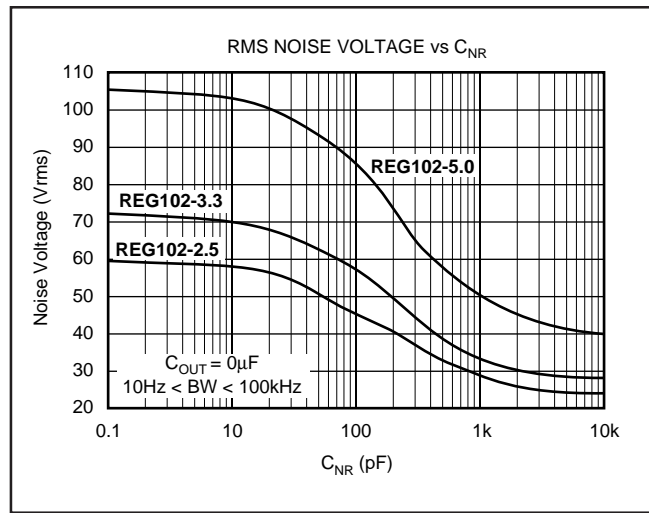
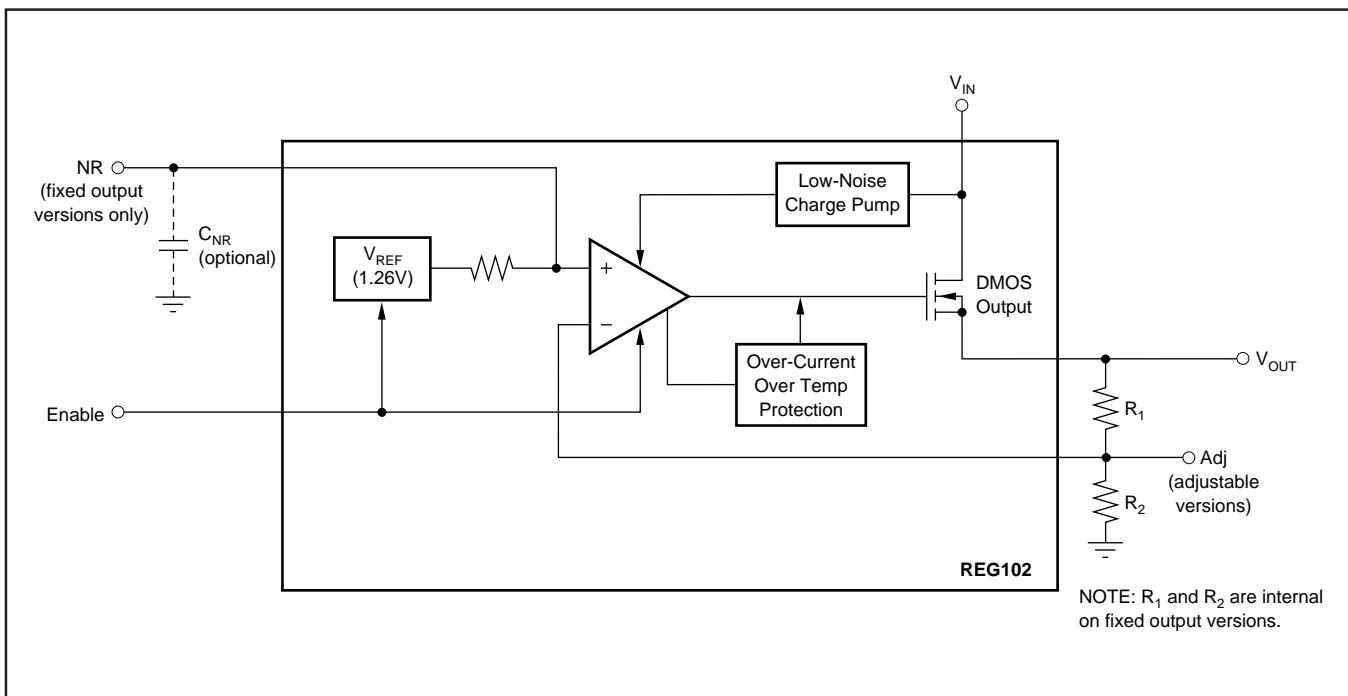

FIGURE 5. Output Noise versus Noise Reduction Capacitor.
FIGURE 4. Block Diagram.
Connecting a capacitor,  $C_{NR}$ , from the Noise Reduction (NR) pin to ground forms a low-pass filter for the voltage reference. Adding  $C_{NR}$  (as shown in Figure 4) forms a low-pass filter for the voltage reference. For  $C_{NR} = 10\text{nF}$ , the total noise in the 10Hz to 100kHz bandwidth is reduced by approximately a factor of 2.8 for  $V_{OUT} = 3.3\text{V}$ . This noise reduction effect is shown in Figure 5 and as *RMS Noise Voltage vs  $C_{NR}$*  in the Typical Characteristics section.